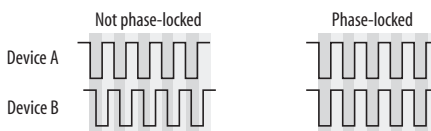

Figure 3-15: When transferring audio, two devices must have phase-locked audio clocks to prevent clicks, pops or other artifacts.
- Synchronizing the Traveler-mk3 with other digital audio devices so that their digital audio clocks are *phase-locked* (as shown in Figure 3-15)